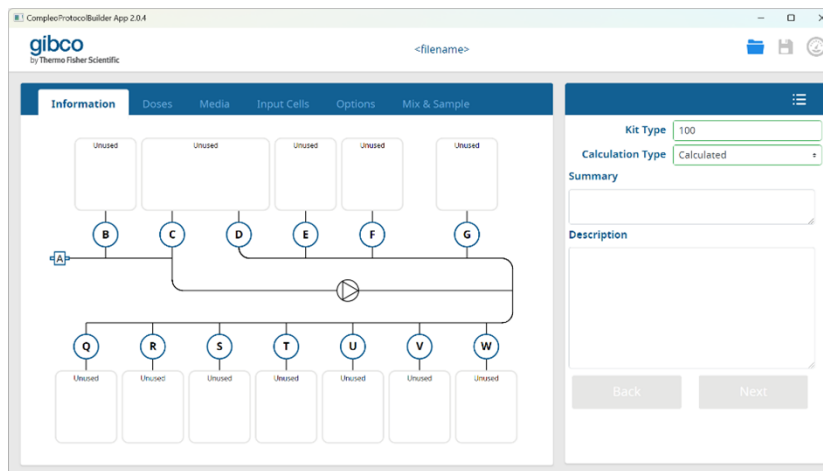

Figure 12 Calculated
1. **Kit Type:** Enter a valid kit type that meets the requirements of your protocol. The kit type for the standard Compleo™ Single-Use Kit (SKU A58165, 5pk) is type 100 — See the kit type field in Figure 12.